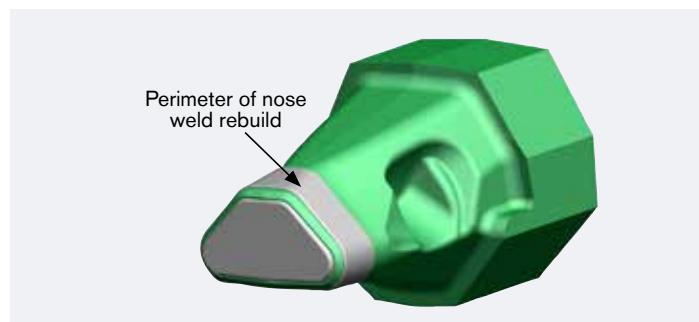

Figure 3
**Step 5** – Once the end of nose weld rebuild is complete, weld a layer of material 3mm/0.12in. thick around the perimeter of the nose as shown in Figure 3. Repeat grinding as described in Step 4 until the new point can be installed and the lock snapped in place.